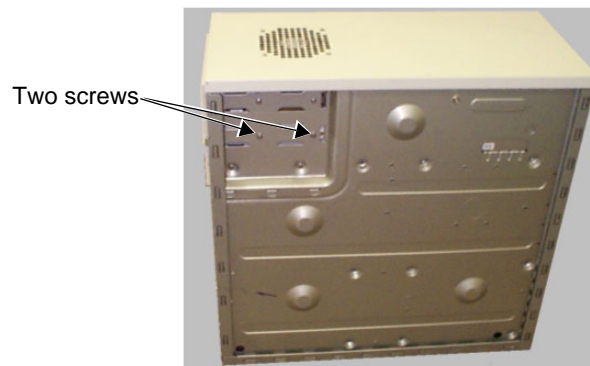

**Figure 8-71 ECG Module - BEP2**
- 7) Remove the BEP front cover as described in 8-5-3-5 "BEP2 - Front Cover Removal Procedure" on page 8-65. A left view of the exposed BEP showing the location of the ECG module is seen in Figure 8-71 below: